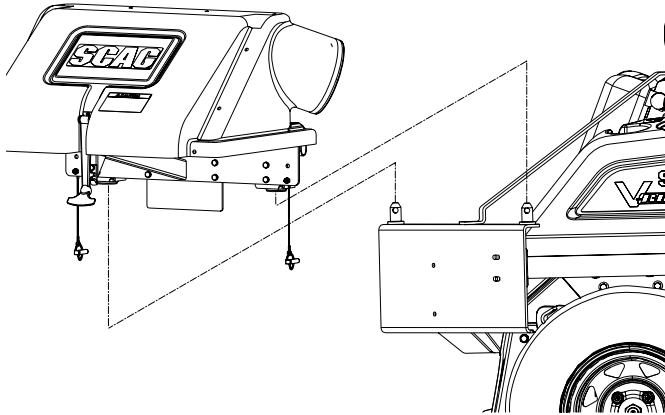

Figure 2-13. Hopper Installation
- With help from an assistant, install the hopper assembly to the machine and secure with the ring pins. See Figure 2-13.
The model shown in Figure 2-13 is for reference only. The grass catcher installs to all models in a similar fashion.